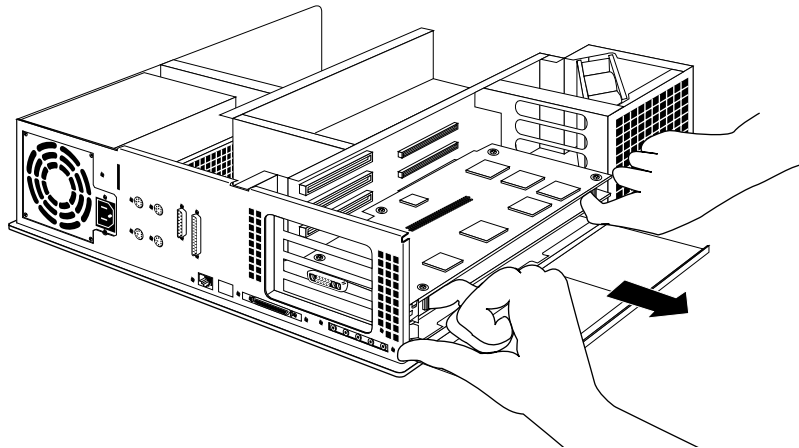

Figure 8-33 Removing the XZ or Extreme Graphics Board Set
- Turn both hands inward so that your thumbs point to the floor, and place your index fingers behind the small metal posts on each side of the board set. (See Figure 8-33.)